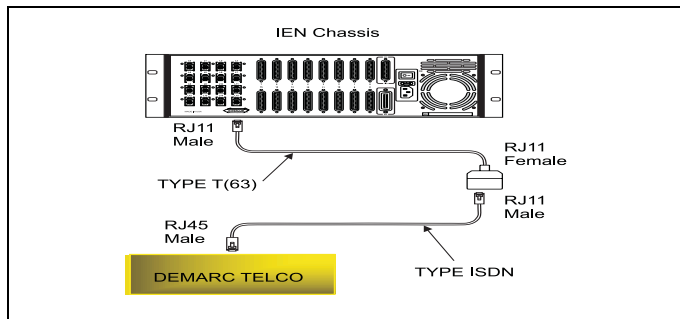

Figure 4-41 Type T(63) Cable Connection
Figure 4-41 illustrates the cable connection for the Type T(63) cable.